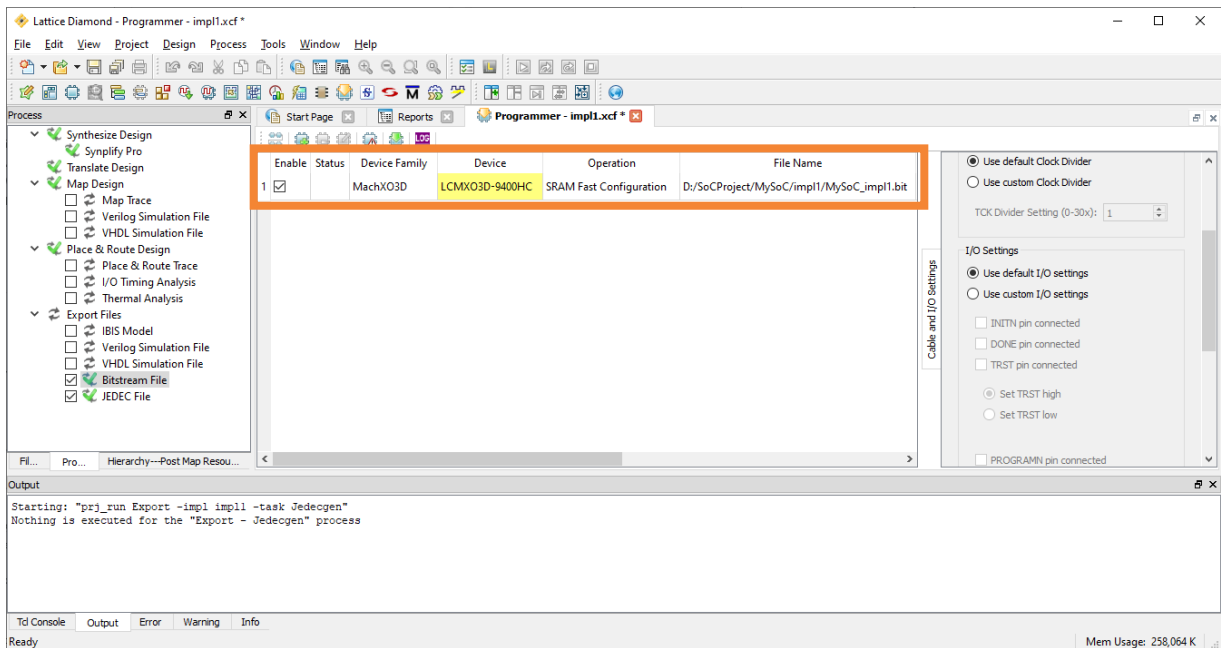

Figure 6.17. Programmer Window
- Review the **Device Family**, **Device**, **Operation**, and **File Name** in the Programmer window (Figure 6.17).